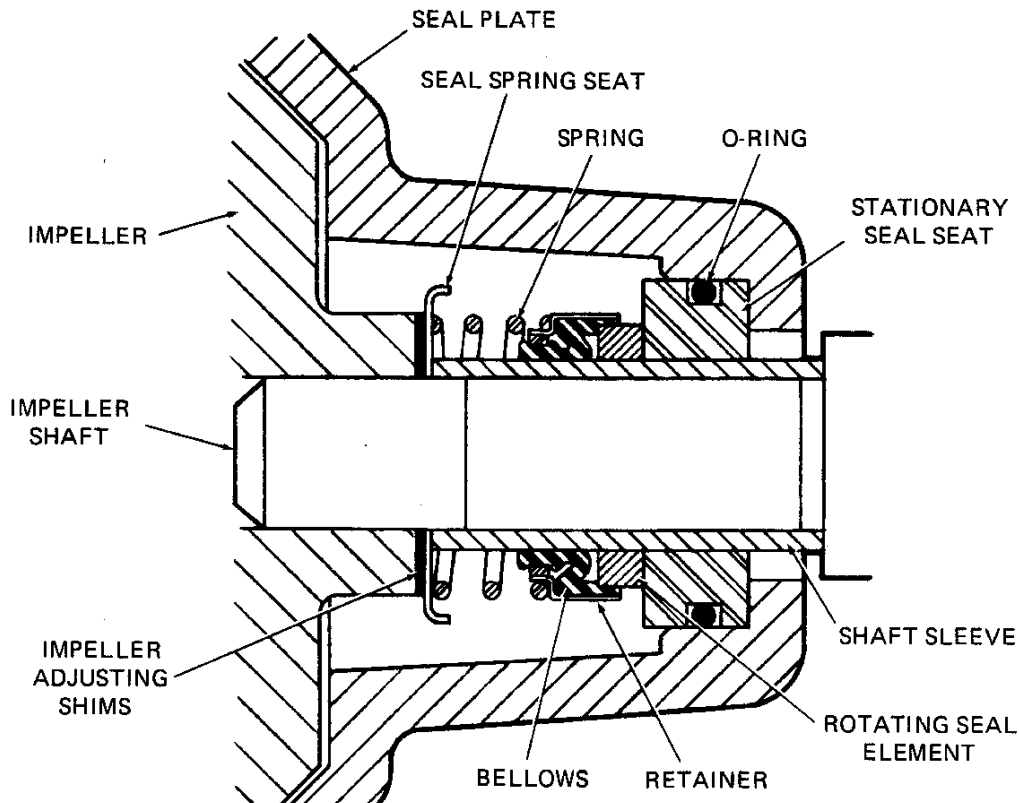

Figure 2. 25284-921 Seal Assembly
To ease installation of the seal, lubricate the O-rings and shaft sleeve (38) with water or a very **small** amount of oil, and apply a drop of light lubricating oil on the finished faces. Assemble the seal as follows, (see Figure 2).